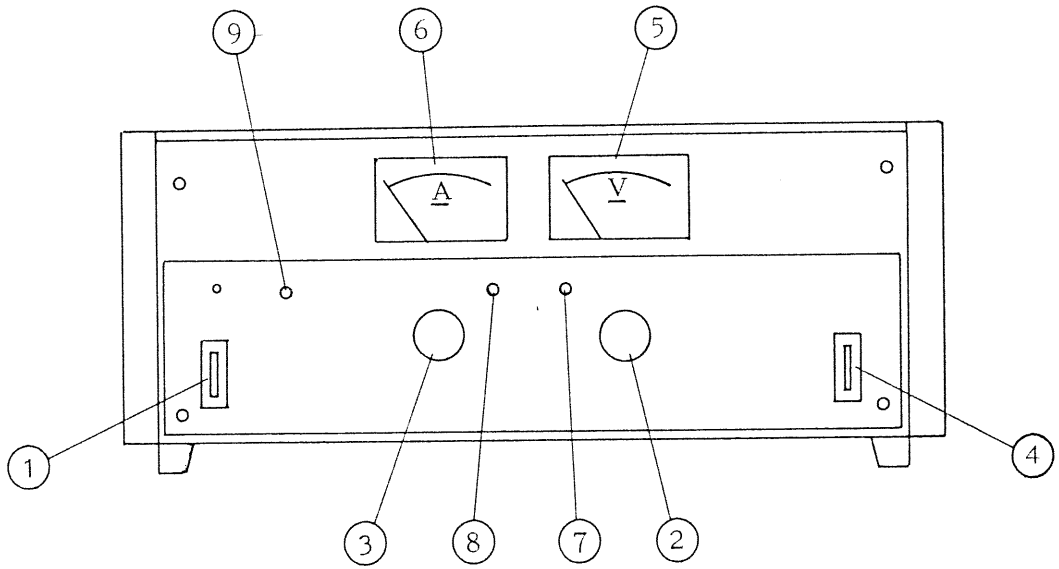

Fig. 3-1 Front Panel
3.1 Explanation of Panel (Refer to Fig. 3-1.)
- ① POWER ON-OFF switch of input power.